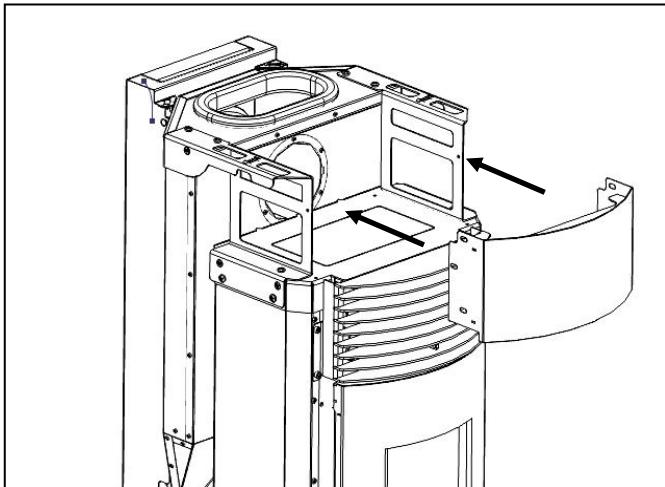

Figure 73 – Front grille assembly
- Place the upper front as shown in Figure 73, positioning the flaps of the front part on the inner face of the structure.